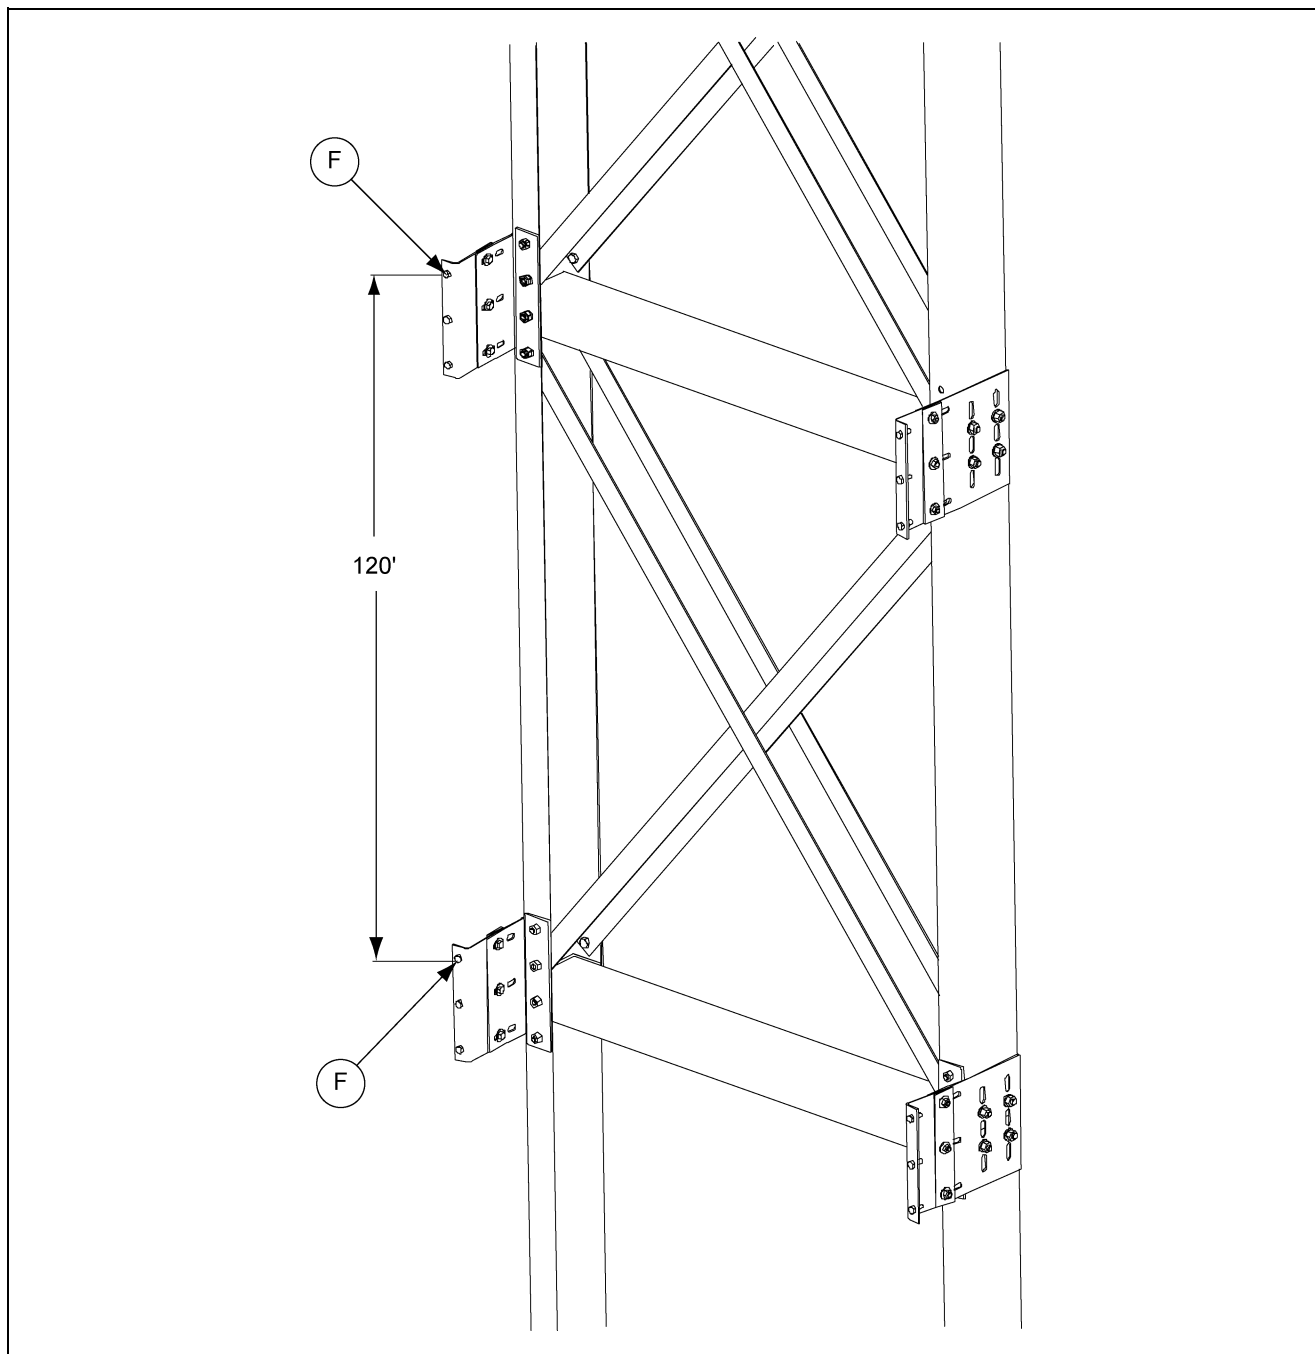

Figure 2L
5. To make sure the next set of lateral brackets, bin brackets, and backing plates line up on the “hills” of the corrugation, measure from the top hole of the previously installed bin bracket to the top hole on the bin bracket being installed. The holes should measure 120" apart. If they do not, then adjust the lateral bracket being installed following Step 4 on Page 19, until the holes measure 120" apart. See Figure 2L. Repeat this step for all bin brackets as the columns are installed.